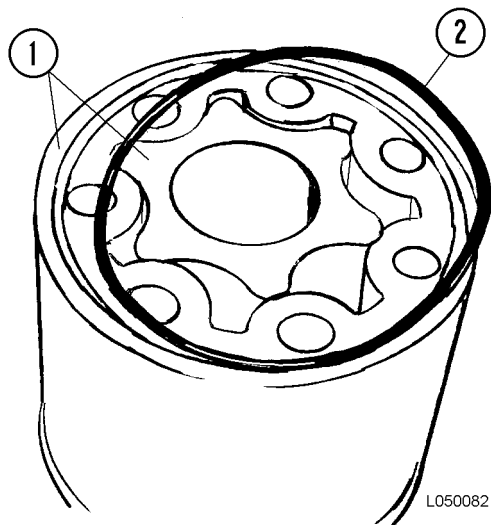

FIGURE 5-5. END COVER REMOVAL
- Remove end cover (4) and O-ring (2, Figure 5-5).